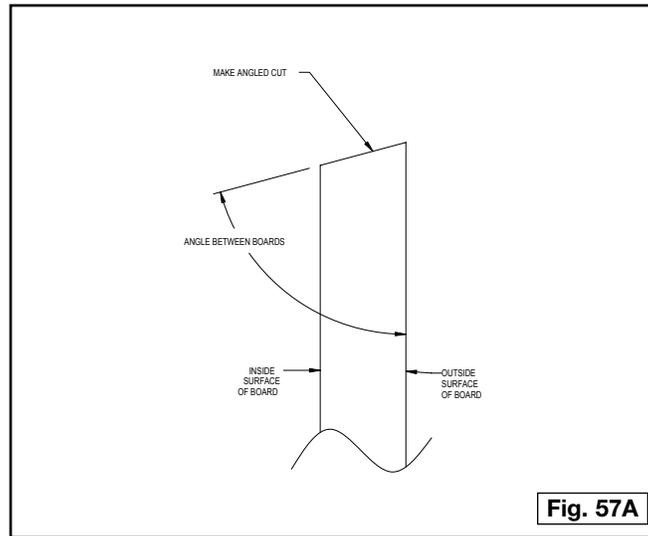

Fig. 57A
- Step 1** - Cut the end of the pin board according to the instructions on the drawing (Fig. 57A). Steep angles or thin wood will make for a weak joint. Make this cut on a table saw with the blade beveled, and with the miter gauge set at 90°.